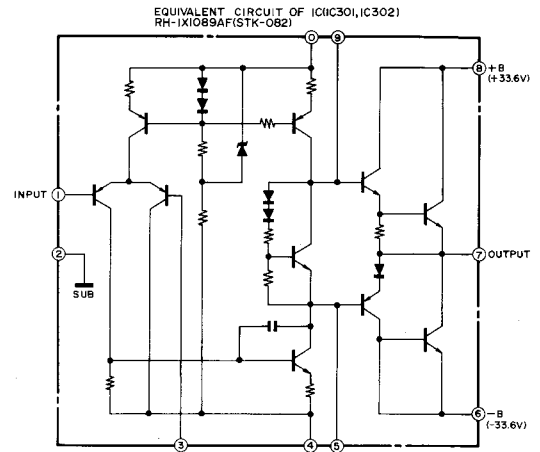

Figure 9-1
1.2.1 Power Amplifier Circuit (Refer to Figure 9-1)